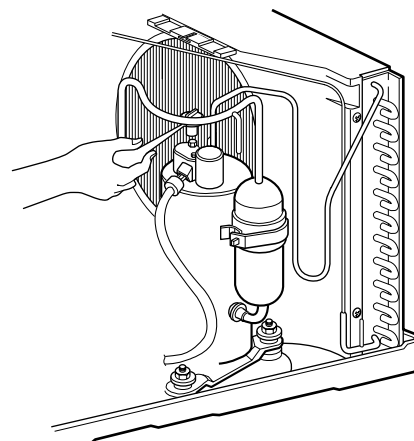

Figure 7
3. Remove the terminal cover. (See Figure 7)